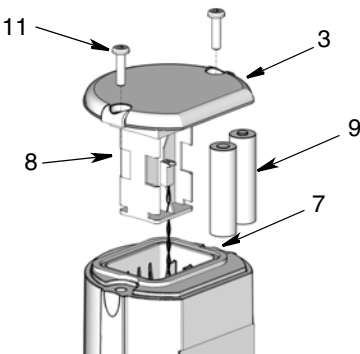

FIG. 9
1. Remove two screws (11) and cover (3) (FIG. 9).
2. Carefully pull battery holder (8) out of TLM just far enough to install the batteries (FIG. 9).